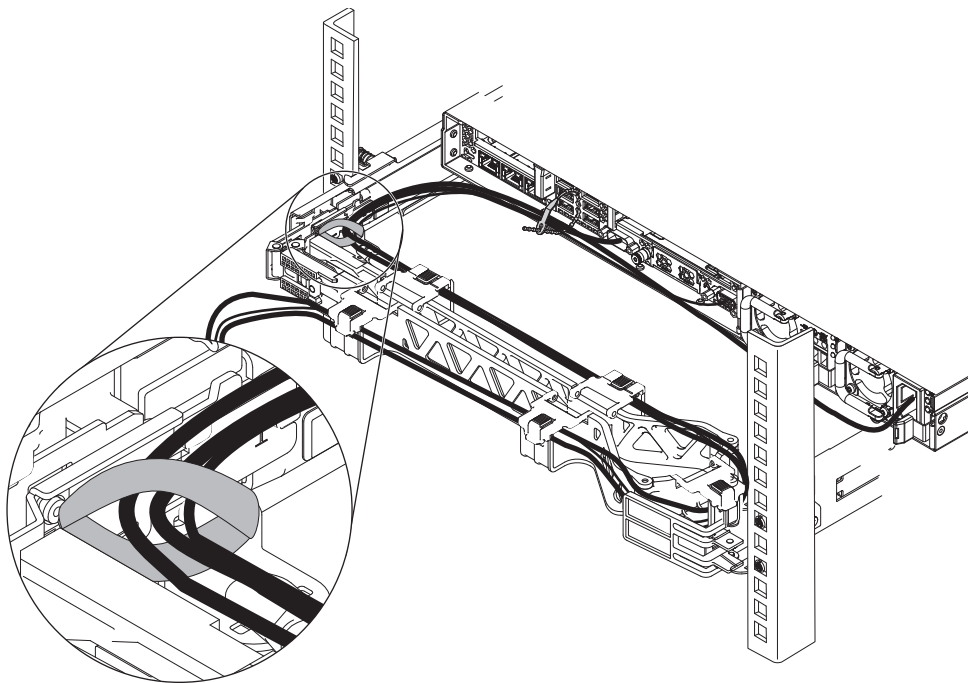

Figure 26. Securing the cables with hook-and-loop fastener strap
7. Secure the cables with the hook-and-loop fastener strap, as shown in Figure 26 on page 32. Cables must be bundled with the hook-and-loop fastener strap to ensure full range of movement of the cable management arm.